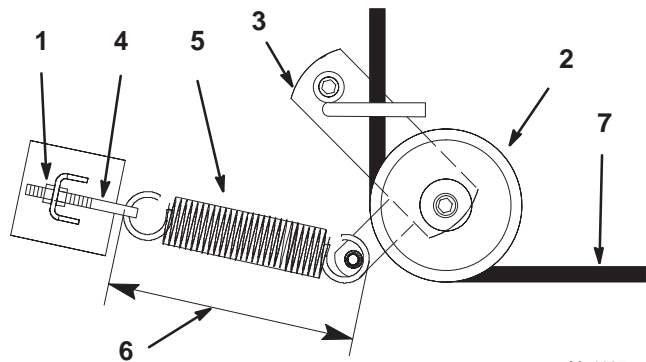

Figure 2
1. Loosen the outer nut on the spring eye bolt (Fig. 2).